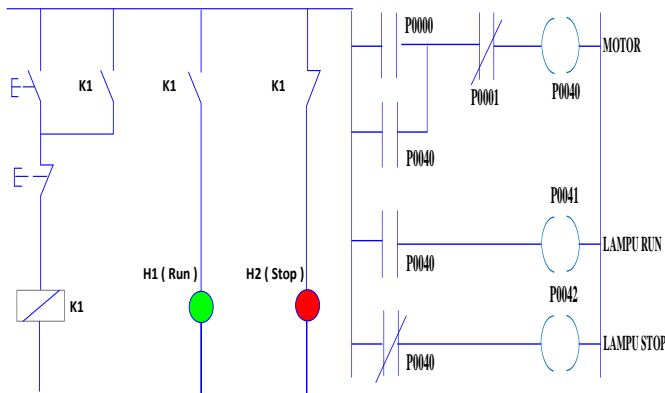

Figure 2.9 Conventional Diagram with Relay and Ladder
- The converted value against LOAD is called LOAD NOT. This instruction means the reverse input provided by PLC. Typically, the use of this function is the input by sensor, limit switch or external device. Figure 2.9 shows the symbol of LOAD NOT.